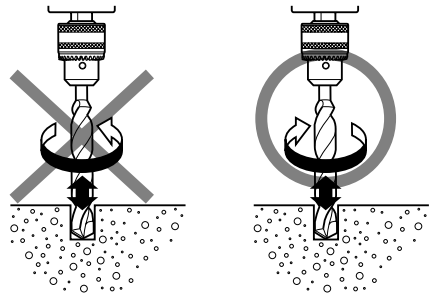

Fig. 8
**Always use the hammer drill with clockwise rotation, when using it as an hammer drill. (Fig. 8)**